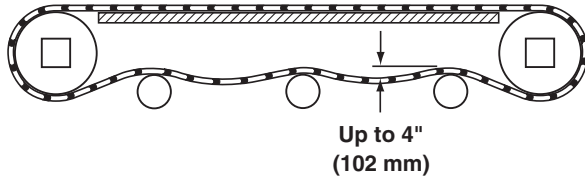

**Figure 49**
2. Slide the return shaft (**Figure 49, item 1**) up and through the large slot (**Figure 49, item 2**) in the frame (picture shown without the belt or wear strips).
3. Push up on the return shaft (**Figure 49, item 1**) and slide the notched end of the shaft through the small slot on the opposite side of the frame.